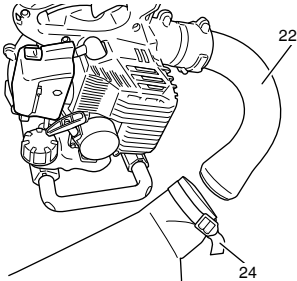

Fig. 10
- Connect the dust bag to the installed bent pipe (22) by inserting the thinner part of the pipe into the opening of the bag. Fasten the adjuster (24) securely by taping the end of the sawn strap. (Fig. 10)